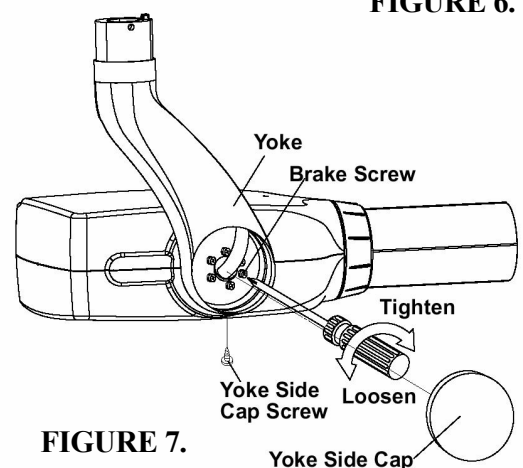

FIGURE 7.
(3) HEAD POSITIONING
- B. If head drifts from the set position, adjust the brake screws according to the following procedures. **(FIGURE 7)**